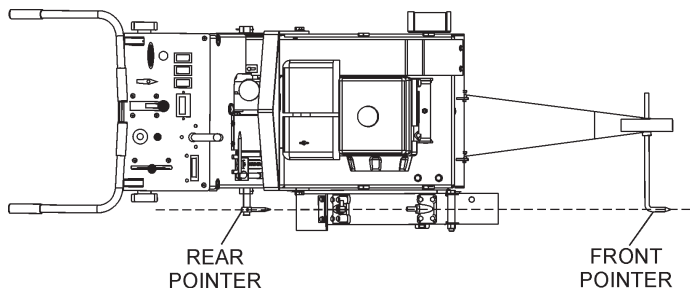

Figure 24. Saw Pointers (Front/Rear)
1. The FS3SP employs a front and rear pointer (Figure 24) that has been precisely aligned with the diamond blade at the factory. Referencing the figure below, accurate tracking is accomplished by referencing the front and rear pointer tips over the cut line. Precise saw direction is accomplished by slight operator pressure against the handle bars.